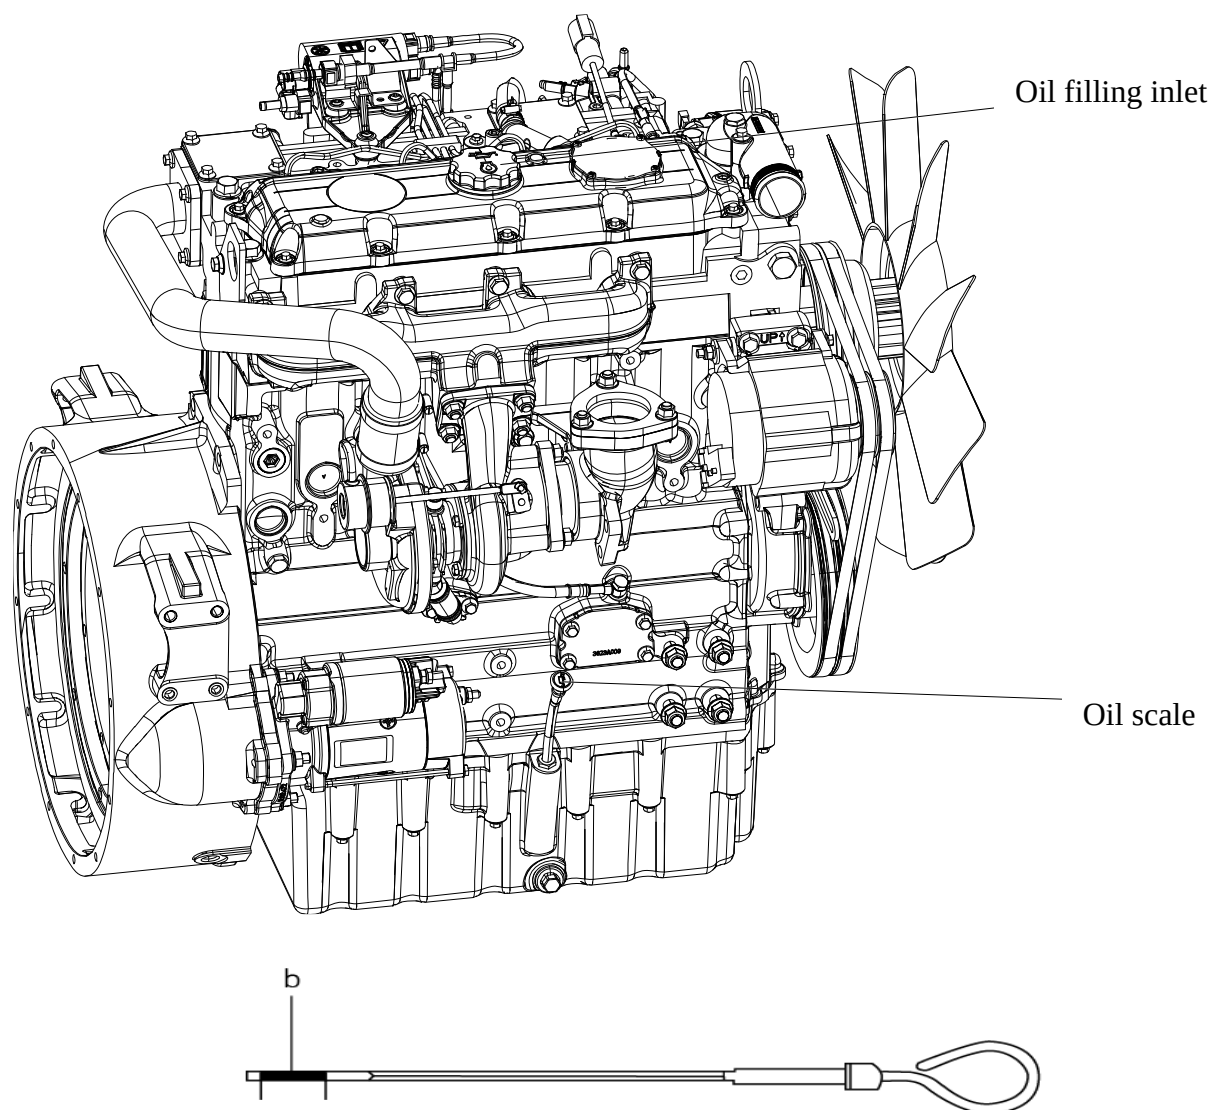

Figure 3-4 Engine Oil Scale
- d. Observe whether the immersed part of the oil scale is in Identification Area b, as shown in Figure 3-4;